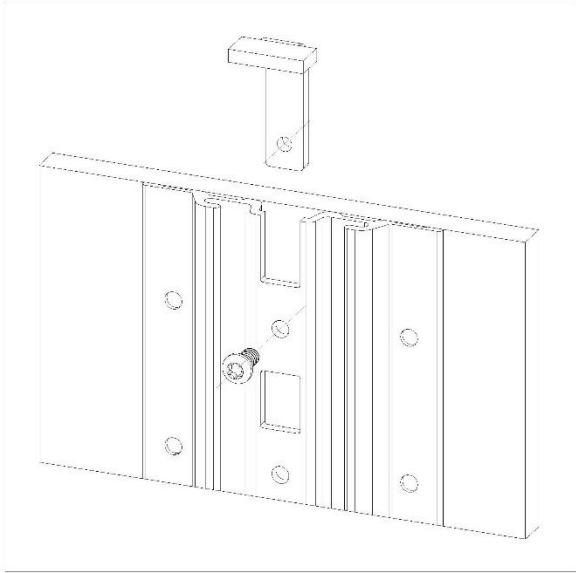

FIGURE 4
1. Insert the Top Beam Stop *behind* the Kaptive Beam Track slot (**FIGURE 4** and **FIGURE 5**).